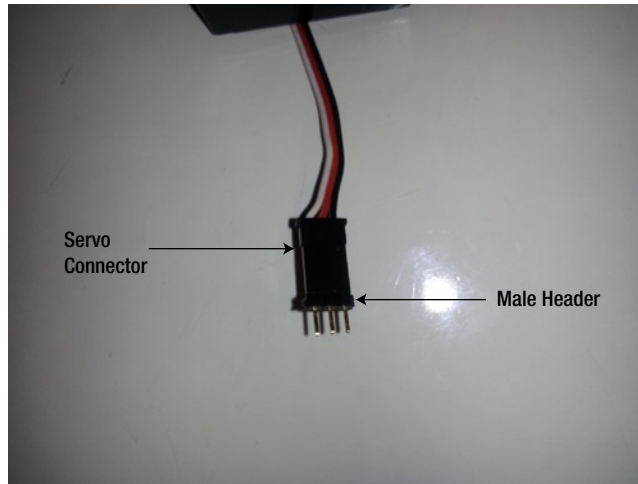

Figure 27-3. Attach the 3-pin stackable header to the servo
2. Next, attach the 3-pin male stackable header to the servo. Figure 27-3 illustrates this process.